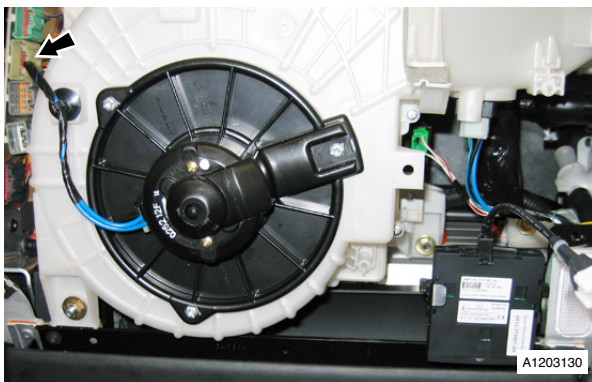

Fig. 1
2. Disconnect multiplugs (x2) from blower motor (see Fig. 1).